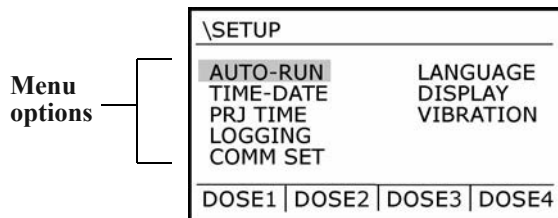

Figure 4–1: *DLX* model Setup display
2. Press ⏮. The Setup display appears (Figure 4–1).